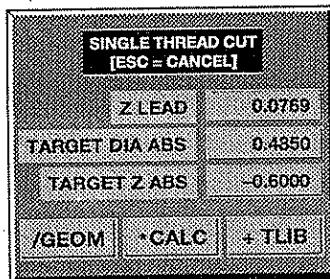

Figure 3-9
- 15) Press **[+]** THREAD key. A screen will appear as in Figure 3-9.